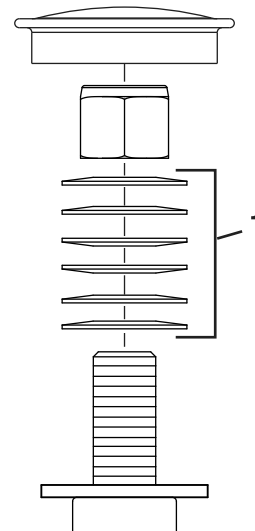

Figure 53
3. Remove the dust cap from the caster and tighten the locknut (Figure 53).
4. Tighten the locknut until the spring washers are flat, and then back off a 1/4 turn to properly set the preload on the bearings (Figure 53).
**Important:** Make sure that the spring washers are installed correctly as shown in Figure 53.
5. Install the dust cap (Figure 53).